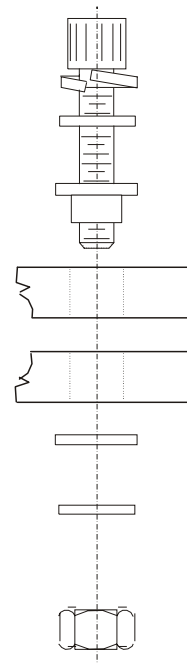

Figure 8. Housing Mounting Hardware
- e. Examine the housing assembly nuts, bolts, and washers (6-mm) for corrosion; replace if necessary. Figure 8, page 19 shows the assembly order of the mounting hardware. All the hardware items are needed to seal the H-ADCP properly.